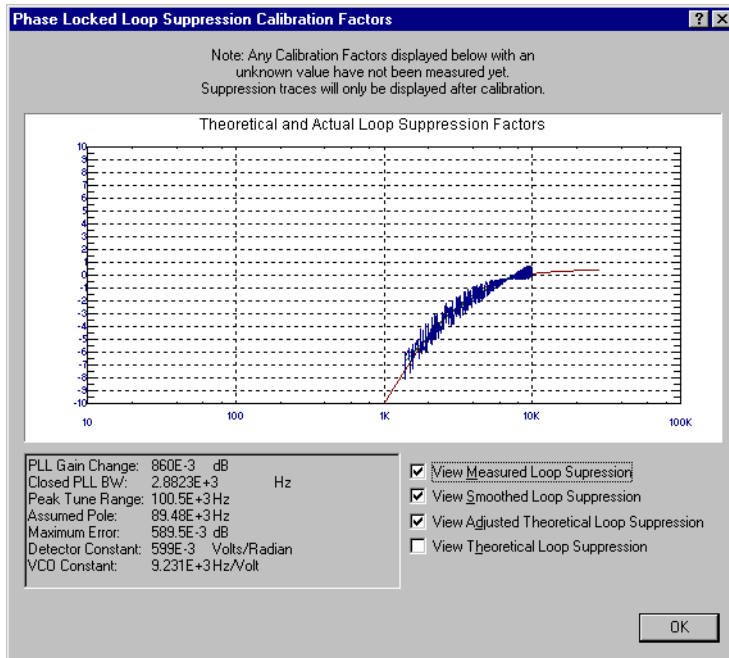

Figure 7-32 SelectingSuppressions
- 2 When the PLL Suppression Curve dialog box appears, select **View Measured Loop Suppression**, **View Smoothed Loop Suppression**, and **View Adjusted Loop Suppression**. See Figure 7-32.